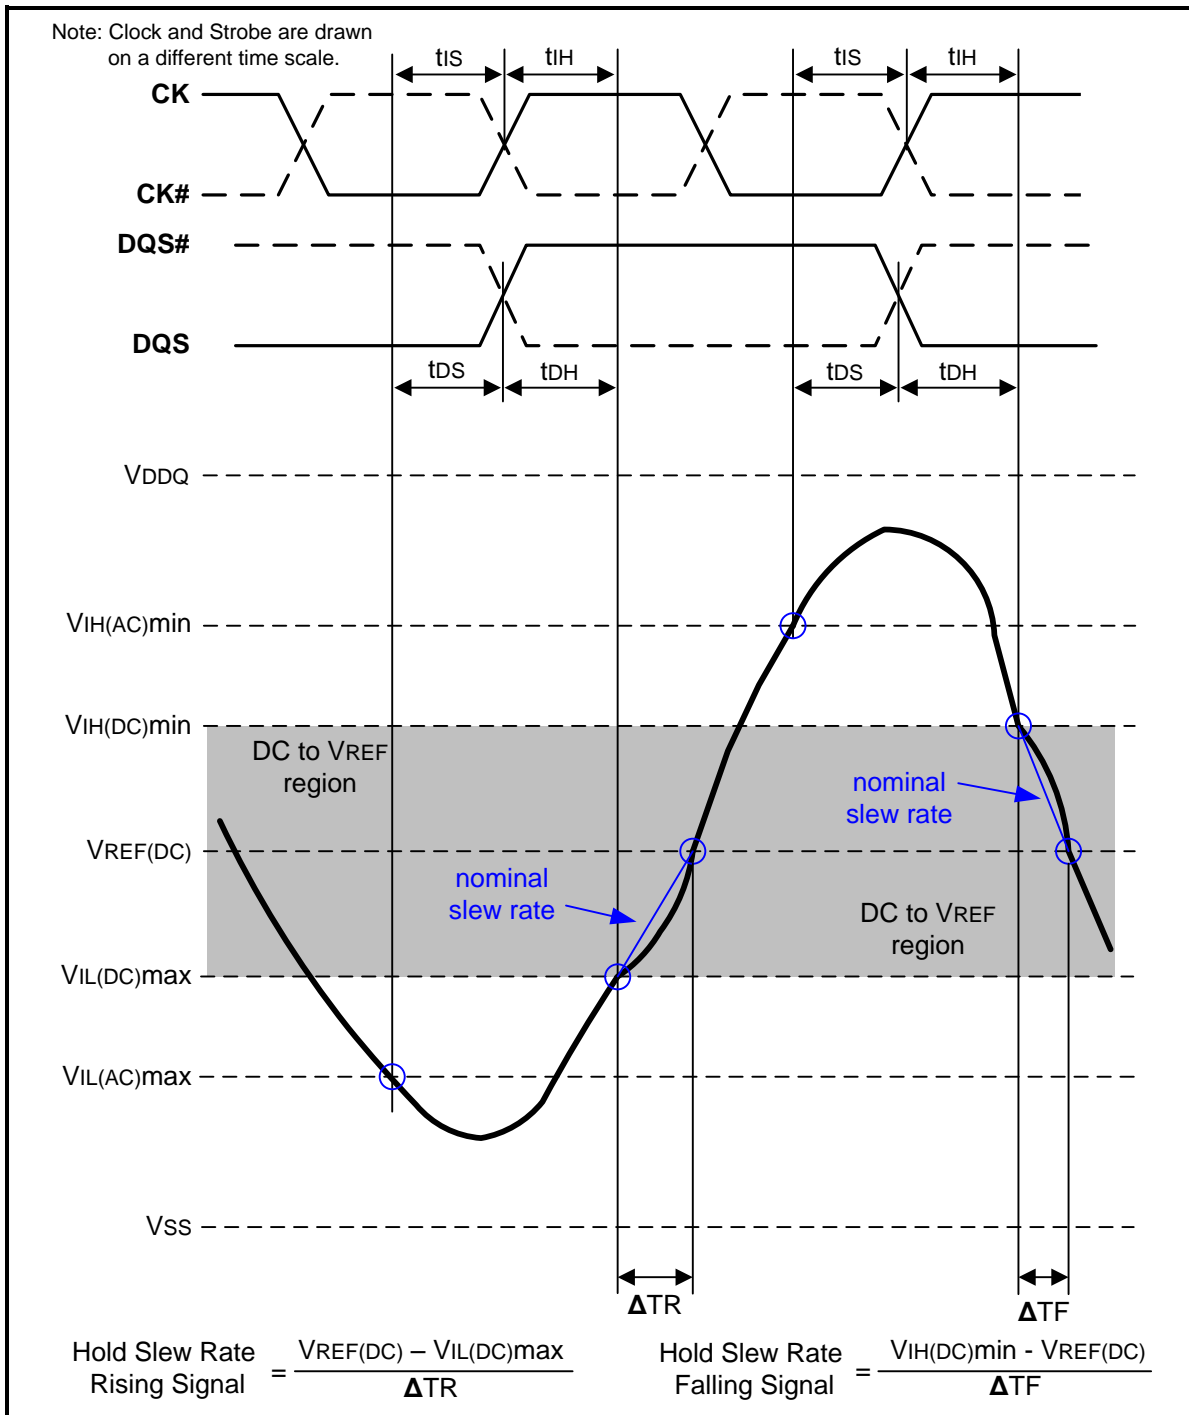
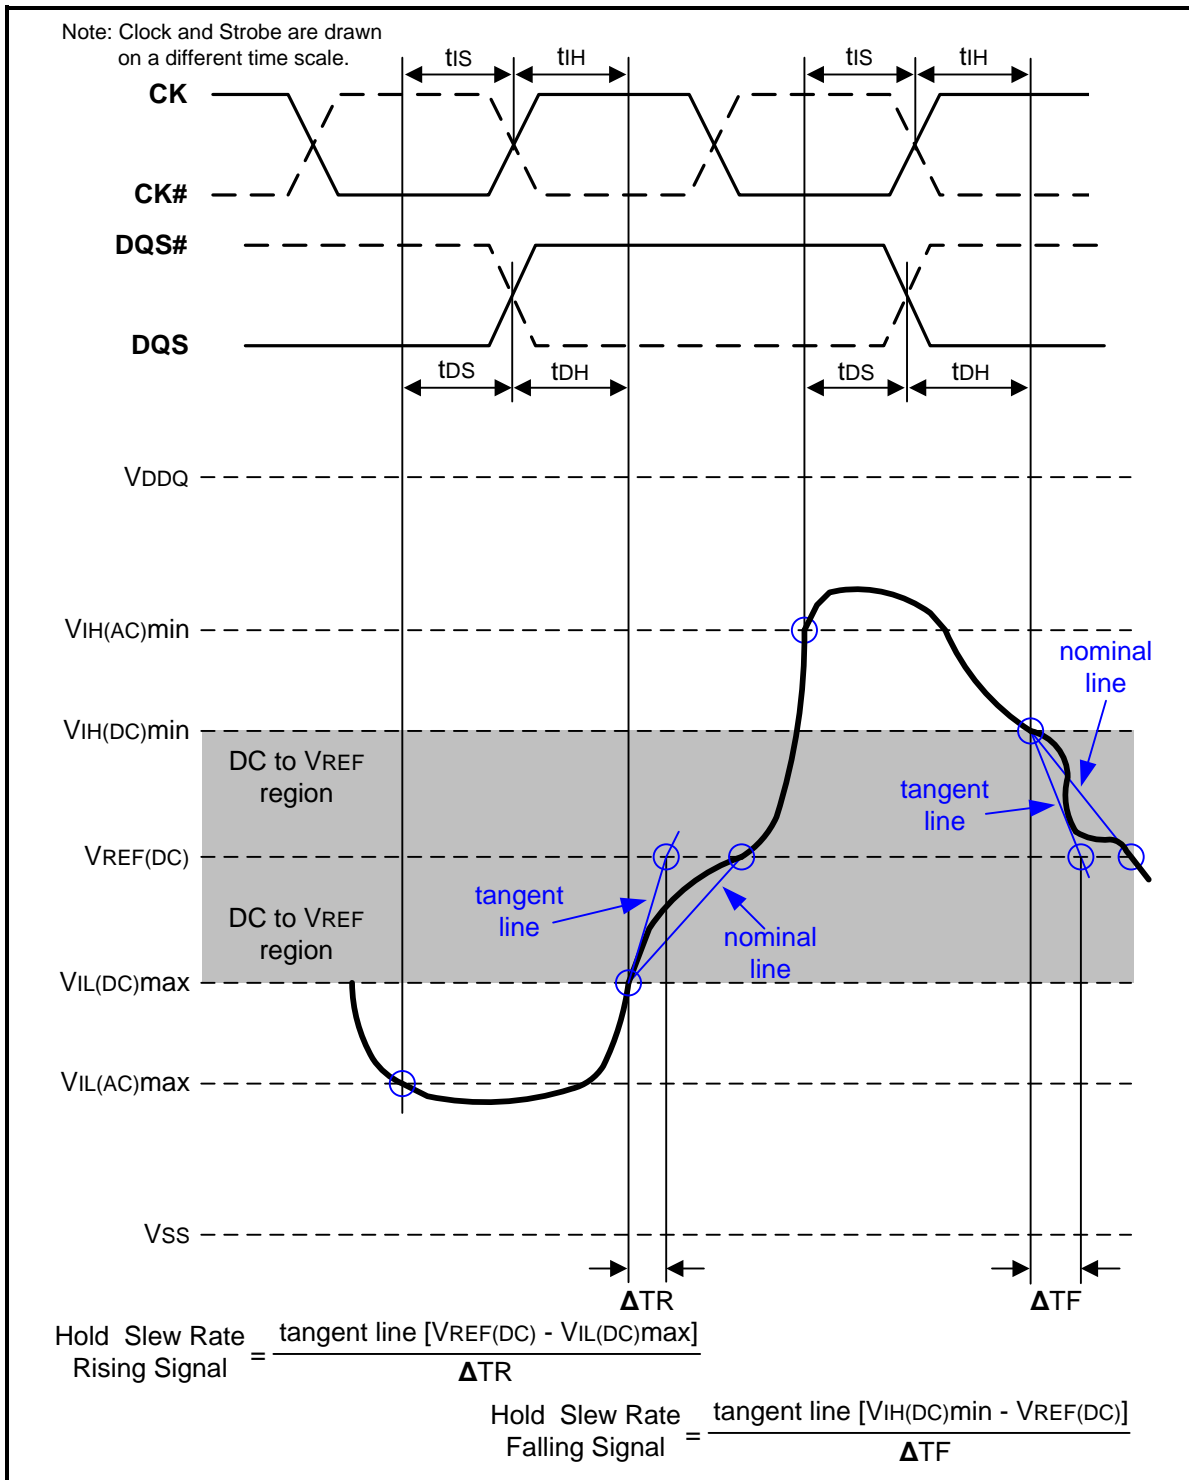

Figure 108 – Illustration of nominal slew rate for hold time tDH (for DQ with respect to strobe) and tIH (for ADD/CMD with respect to clock)
Figure 110 – Illustration of tangent line for hold time tDH (for DQ with respect to strobe) and tIH (for ADD/CMD with respect to clock)
Hold (t_{IH}) nominal slew rate for a rising signal is defined as the slew rate between the last crossing of $V_{IL}(\text{DC})_{\text{max}}$ and the first crossing of $V_{REF}(\text{DC})$. Hold (t_{IH}) nominal slew rate for a falling signal is defined as the slew rate between the last crossing of $V_{IH}(\text{DC})_{\text{min}}$ and the first crossing of $V_{REF}(\text{DC})$. If the actual signal is always later than the nominal slew rate line between shaded 'DC to VREF(DC) region', use nominal slew rate for derating value (see Figure 108). If the actual signal is earlier than the nominal slew rate line anywhere between shaded 'DC to VREF(DC) region', the slew rate of a tangent line to the actual signal from the DC level to VREF(DC) level is used for derating value (see Figure 110).
Hold (tDH) nominal slew rate for a rising signal is defined as the slew rate between the last crossing of VIL(DC)max and the first crossing of VREF(DC). Hold (tDH) nominal slew rate for a falling signal is defined as the slew rate between the last crossing of VIH(DC)min and the first crossing of VREF(DC) (see Figure 108). If the actual signal is always later than the nominal slew rate line between shaded 'DC level to VREF(DC) region', use nominal slew rate for derating value. If the actual signal is earlier than the nominal slew rate line anywhere between shaded 'DC to VREF(DC) region', the slew rate of a tangent line to the actual signal from the DC level to VREF(DC) level is used for derating value (see Figure 110).